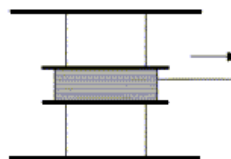

Figure 2
- When pulling at very shallow angles, the spool orientation is not stable unless the thread comes off the spool at its center. This can be prevented by using a ribbon rather than a thread or using a large spool that is made in such a way that the thread can only be rolled in the centre of the spool (Figure 2).